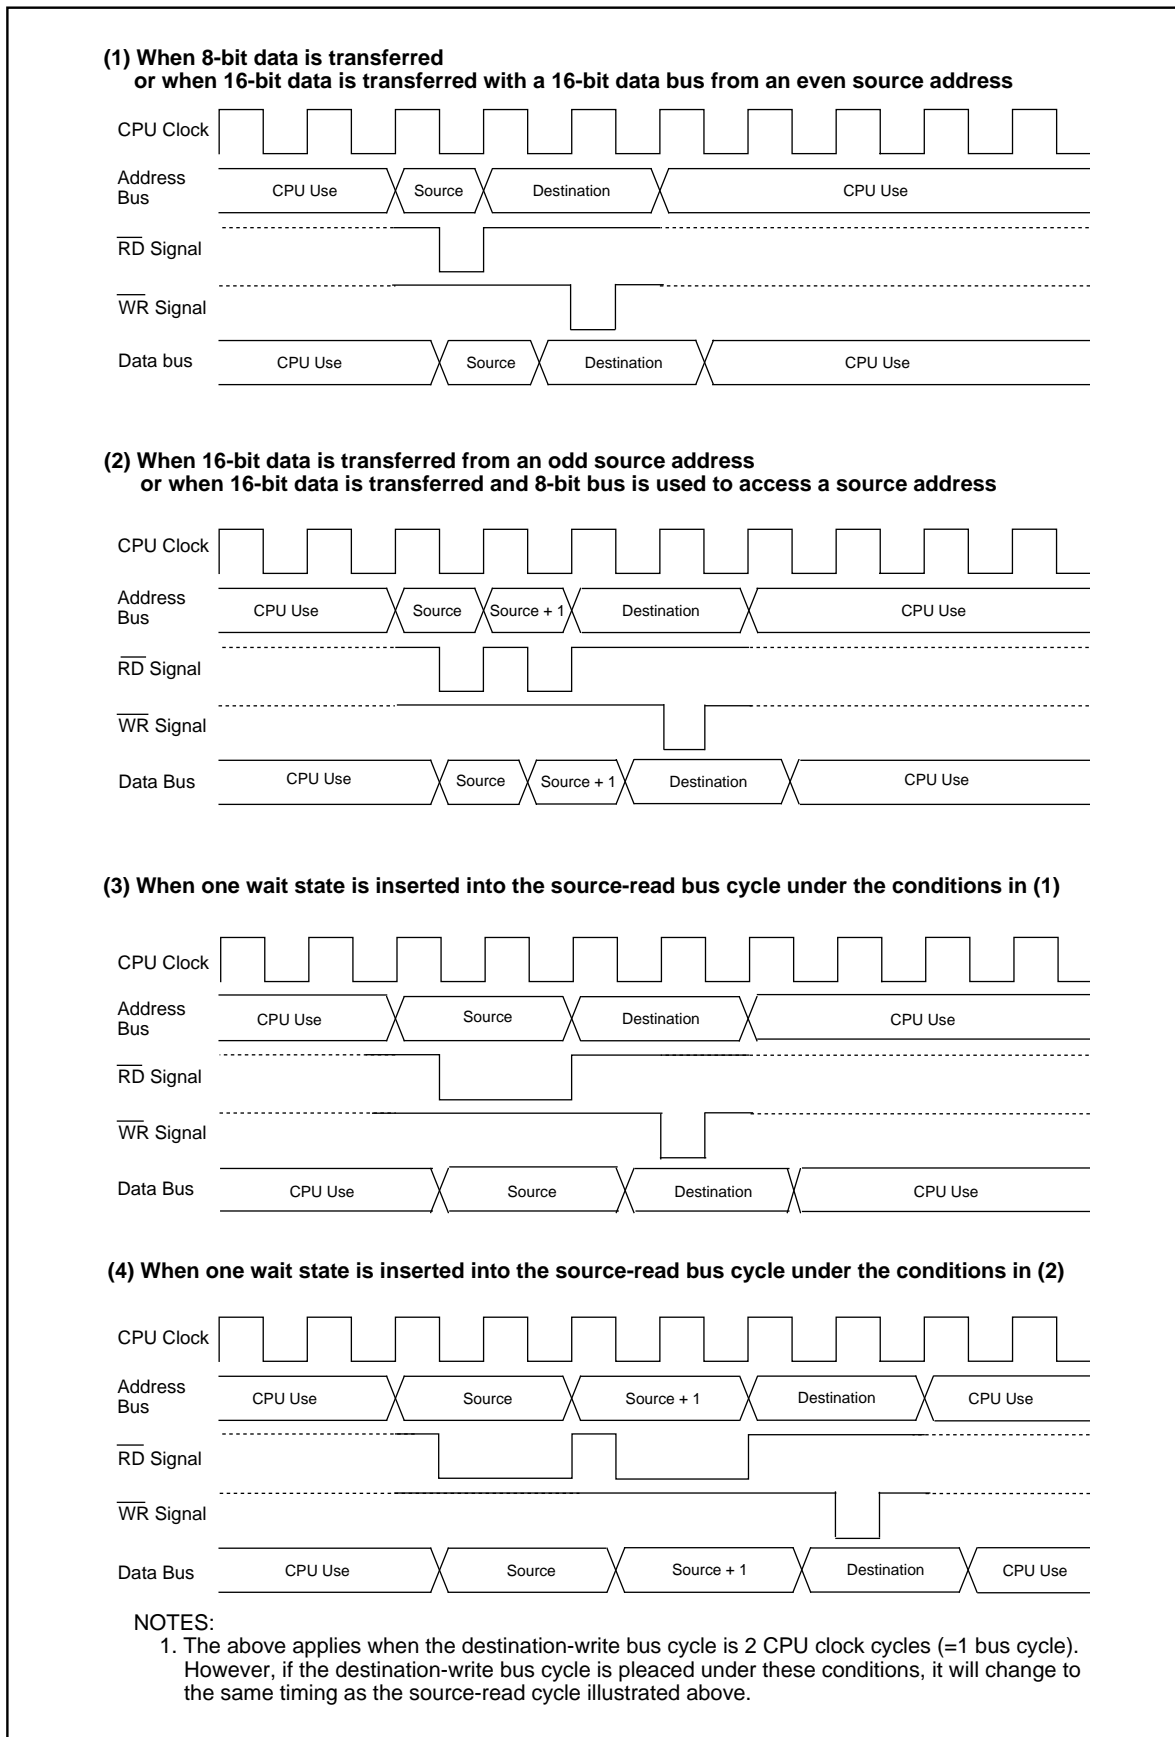

Figure 13.6 Transfer Cycle Examples with the Source-Read Bus Cycle
Figure 13.6 shows an example of a transfer cycle for the source-read bus cycle. In Figure 13.6, the number of source-read bus cycles is illustrated under different conditions, provided that the destination address is an address of an external space with the destination-write cycle as two CPU clock cycles (=one bus cycle). In effect, the destination-write bus cycle is also affected by each condition and the transfer cycles change accordingly. To calculate a transfer cycle, apply respective conditions to both destination-write bus cycle and source-read bus cycle. As shown in example (2) of Figure 13.6, when an 8-bit data bus, accessing both source and destination addresses, is used to transfer a 16-bit data, two bus cycles each are required for the source-read bus cycle and destination-write bus cycle.